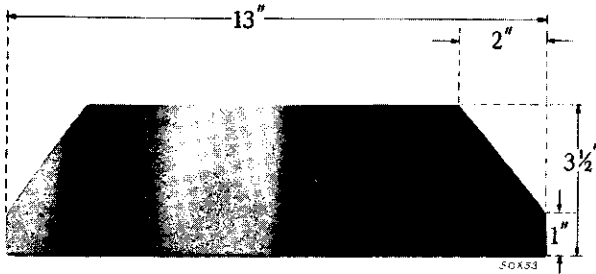

Fig. 61—Valve Tappet Guide Installing Plate
- (1) Make certain the camshaft cams are positioned so that all tappets for a particular assembly will be in the lowest possible position. This will facilitate the installation of the tappet guide assemblies.
- (2) Make an installing plate, as illustrated in Figure 61, from smooth sheet metal to facilitate the installation of the tappet guide assembly.
- (3) Place the tappet guide assembly in the engine and position the installing plate on top of tappets and under the valve stems.
- (4) Push the tappet guide assembly into place and align the guide assembly and cylinder block bolt holes. Remove the installing plate.
- (5) Install bolts and lock in position by bending up the corners of the locking plate.